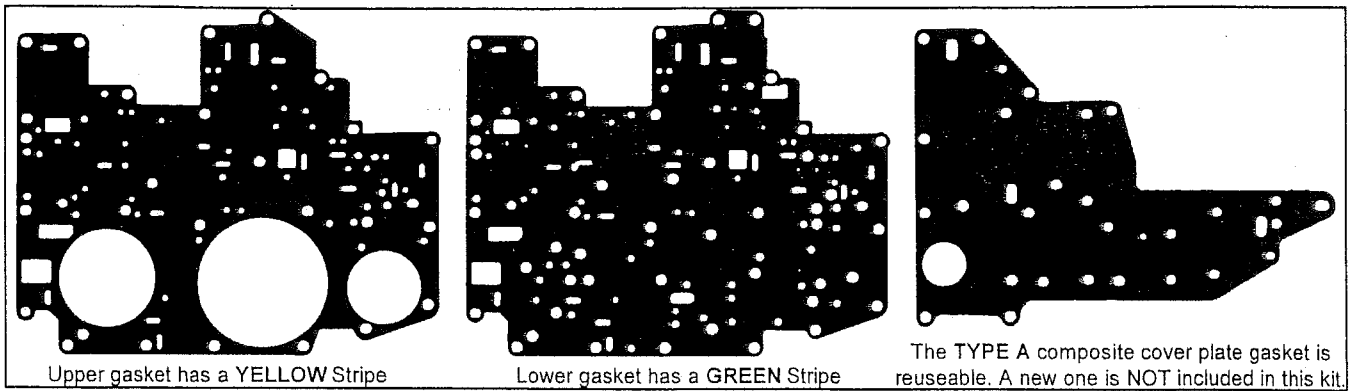

Figure 10. '92-'95 (TYPE A) Valve Body Gaskets
There are two (2) sets of separator plate gaskets in this kit see figures 10 & 11 for identification marks (color stripes). The laminated cover plate used on '92-'95 (**Type A**) units is reusable (unless damaged) and is not included in this kit. If your '92-'95 (**Type A**) cover plate gasket is damaged you will have to purchase a new one from a Ford dealership or